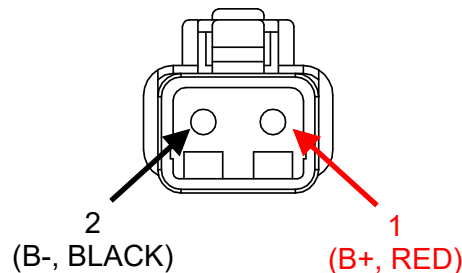

FIGURE 6 – LOW CURRENT 12 VDC POWER INPUT CONNECTOR CONTACT ASSIGNMENTS (FRONT)
- iv. Before connecting CABLE 7 to Seakeeper, check for proper voltage and polarity with a DC multimeter using Figure 6 below.